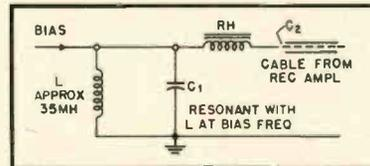
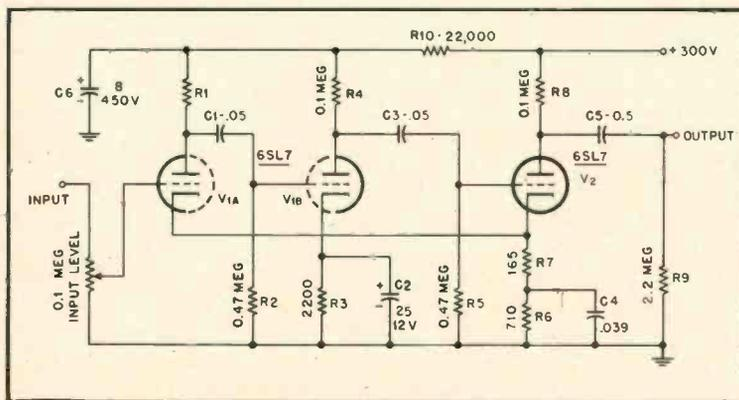

Fig. 6. The author's series-bias system employs a resonant circuit to keep bias out of amplifier.
Fig. 7. The complete tape-recording amplifier. Output goes through a shielded cable to the head and bias-injection arrangement of Fig. 6.
The recording bias is therefore fed into the recording head in series with the audio frequencies, as shown in Fig. 6. The parallel tuned circuit  $L-C_1$
The complete diagram is shown in Fig. 7. The mentioned feedback path consists of  $R_6$ ,  $R_7$ , and  $C_4$ . The current amplification at low frequencies is determined by  $R_6 + R_7$ , the low-frequency turnover by the time constant  $R_6 C_4$  and the high-frequency turnover by the time constant  $R_7 R_8$ . The design procedure for this network and  $C_{11}$  in Fig. 6 will now be described.
(2) The region in which this frequency response drops by about 6 db per octave may now be extended, adjusting  $C_4$  (Fig. 6) to its optimum value.
(3) The frequency  $f_1$  at which the output is 3 db below flat response, and the frequency  $f_2$  at which the response drops by at least 6 db1 below the 6-db-per-octave line, are found by inspection.
(4) The value of the components may now be found from  $f_1$ ,  $f_2$  and  $R$  according to the formulas
The recording head employed by the author has the following characteristic: impedance, 0.44 ohm measured at 50 cps, resonating at 14,000 cps with 200  $\mu$ f; maximum impedance (self-resonating) at 60,000 cps. However, any high-impedance head may be employed with the corresponding changes of the critical components  $R_6$ ,  $R_7$ ,  $C_1$ , and  $C_2$  (Fig. 6). In the present design their value was chosen for a tape speed of 7.5 ips. A conventional reproducing amplifier was employed and yielded at that speed an over-all response of  $\pm 3$  db between 40 and 10,000 cps. The highest frequency obtainable without attenuation will mainly depend on the kind of recording head, reproducing head, the tape speed, and the tape itself. The recording amplifier itself is capable of amplifying the highest audible frequencies with considerable preemphasis, and with remarkable lack of distortion.